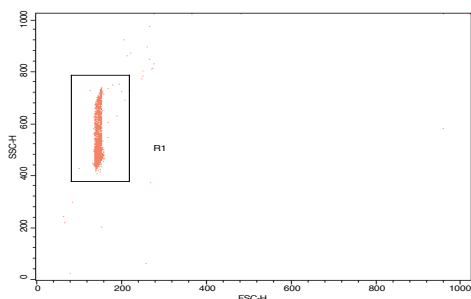

Figure 4
- Gate on the singlet population(s) on a Forward Scatter vs. Side Scatter plot. (Figure 4)